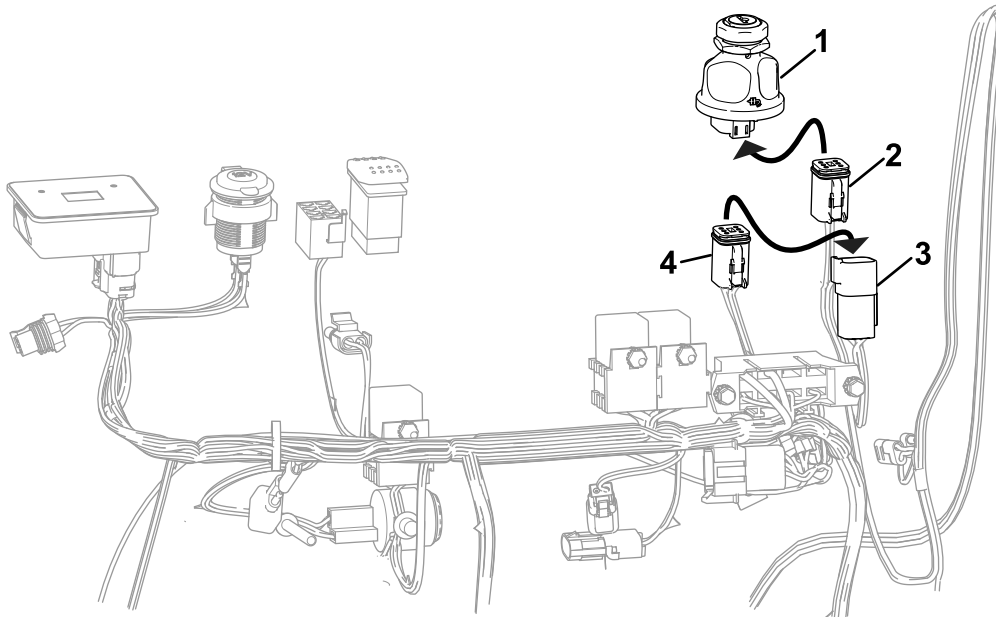

Figure 10
B. Plug the traction unit harness connector into the fit-up kit harness connector (Figure 10).
C. Plug the other fit-up kit harness connector into the ignition switch (Figure 10).